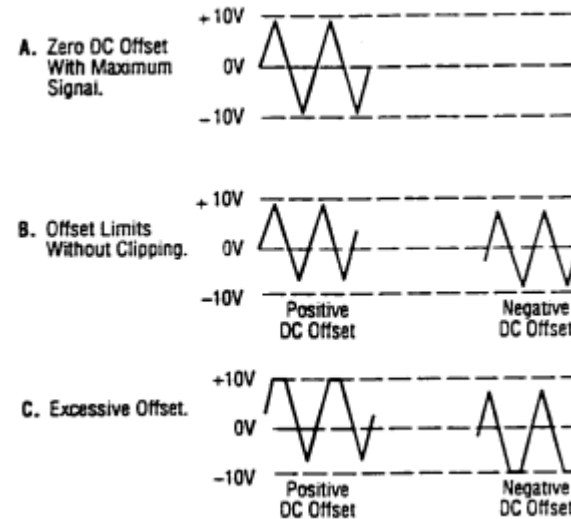

Figure 3. Use of DC OFFSET Control
- Adjust the amplitude of the output as desired using the **OUTPUT LEVEL** control (10). Rotation of this control varies the amplitude from maximum to 20dB below maximum. An additional attenuation of -20dB is available by pushing in the **-20dB** switch (5). The attenuation factors can be combined for a total of -40dB. The maximum signal level is 10V p-p (into 50Ω).
- A DC component can be added to the output signal by pushing in the **DC OFFSET** switch (4) to enable operation of the **DC OFFSET** control (11). Rotation of this control adds a positive or negative DC component to the output signal. The DC component introduced is independent of the **OUTPUT LEVEL** control and can be varied by ± 10 volts open circuited or ± 5 volts into 50Ω. The DC Offset does not affect the **TTL/CMOS** output jack. The effect of DC OFFSET is shown in Fig. 3.
6. Remember that the output signal swing of the generator is limited to ± 10 volts open circuited or ± 5 volts into 50Ω , and applies to the combined peak-to-peak signal and DC offset. Clipping occurs slightly above these levels. Fig. 3 illustrates the various operating conditions encountered when using the DC offset. If the desired output signal is large or if a large DC offset is required, an oscilloscope should be used to make sure that the desired signal is obtained without undesirable clipping.